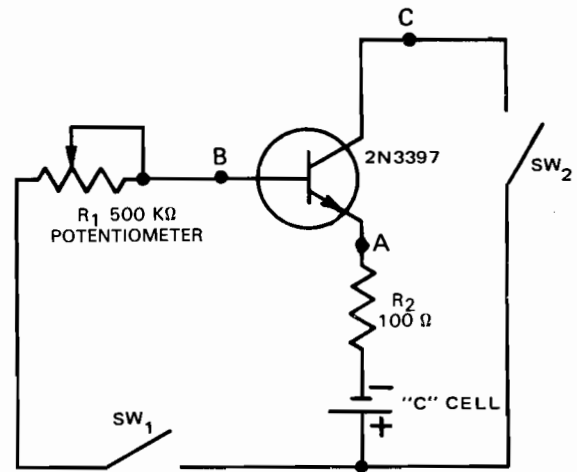

Fig. 16-2-1
1. Connect transistor circuit as in Fig. 16-2-1. Test points A, B, and C are milliammeter connection points. To insert this meter at any point, break circuit and connect meter in series with the two connections. When the meter is removed from a test point, the circuit path must be made complete. Meter polarity also must be observed to get an up-scale deflection.